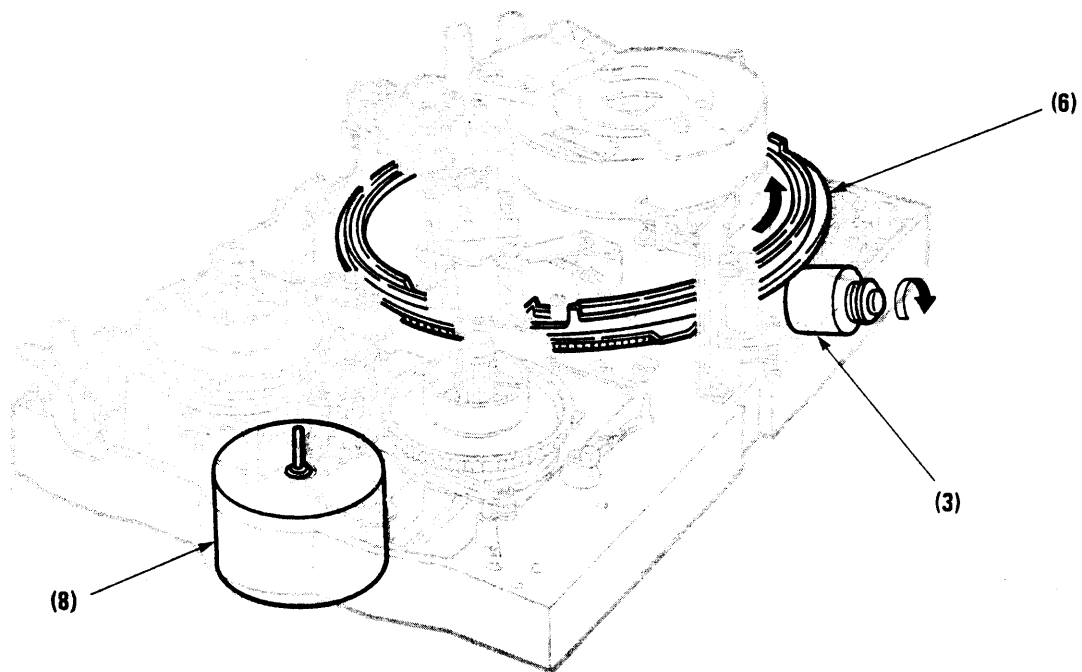

Fig. 3-2-5
If the sensor detects that the reel base has stopped during any of the F FWD, REW, or UNLOADING modes, the reel motor (8) will stop, and the loading motor (3) will rotate in the clockwise direction. The loading ring (6) will then rotate in the counter clockwise direction and, once loading is completed, the VCR will enter the STOP mode. (See Fig. 3-2-5.)